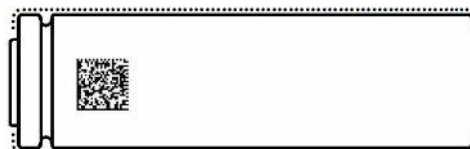

Fig.4
5.11 2Dimensional Code (Fig.4)